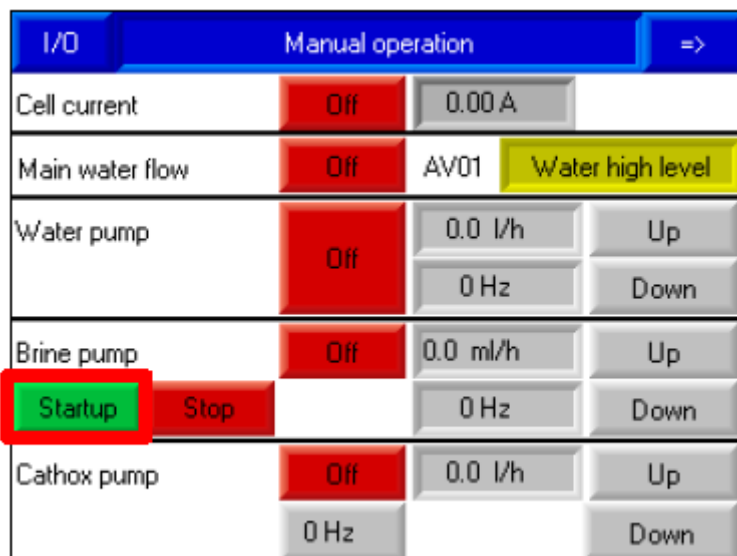

Figure 67 - Startup button for Brine pump
4. Tap the Startup button for Brine pump (Figure 67).